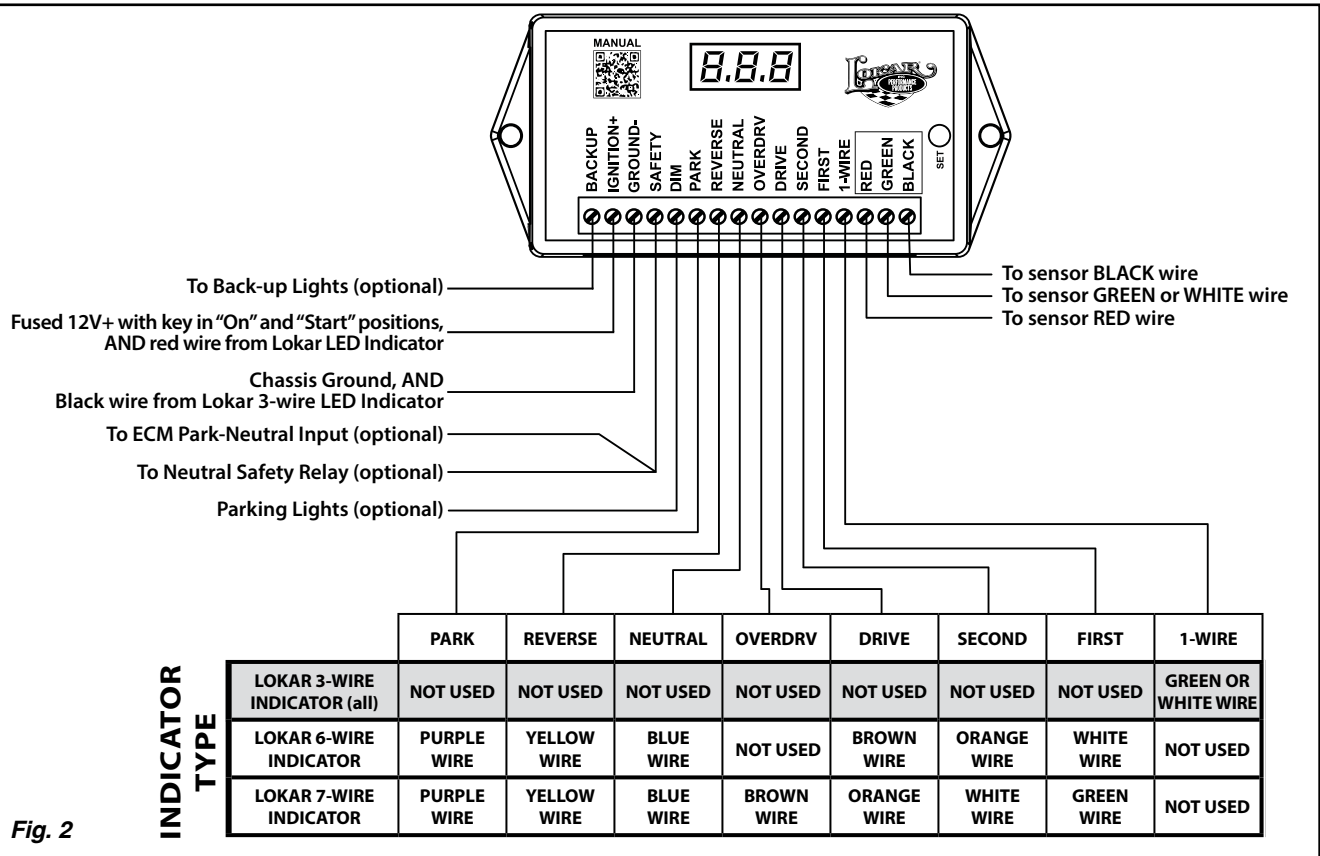

Fig. 2
Connect one end of a black wire (not supplied) to a solid chassis ground. Join the other end of that wire to the black wire from the LED Indicator. Insert the joined end of those wires into the "GROUND-" terminal on the decoder box and tighten the terminal screw. **Fig. 2**
Step 25: Following the wiring diagram in **Fig. 2** for your type of Indicator, connect the rest of the wires from the LED Indicator to the decoder box.
Step 26: Following the wiring diagram in **Fig. 2** for your type of LED Boot or Dash Indicator, connect the rest of the wires from the Indicator to the decoder box.